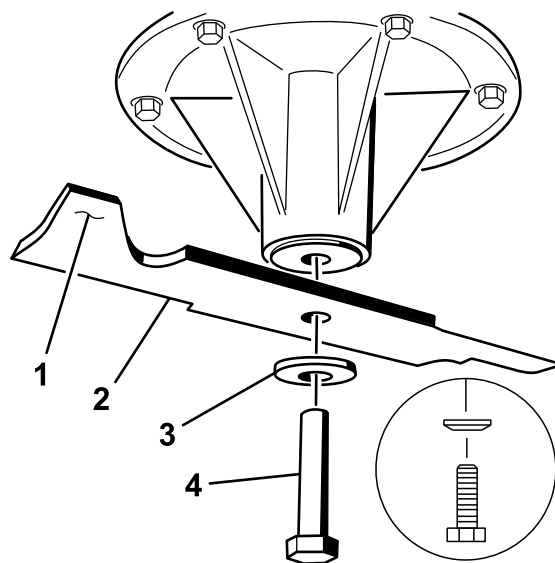

Figure 101
- Remove the blade bolt, curved washer, and blade from the spindle shaft (Figure 101).